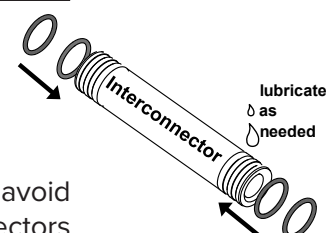

Figure TMM-200-1
3. If required, assemble interconnectors with supplied o-rings carefully to avoid any scratches. Use glycerine as a lubricant. Keep assembled interconnectors in a clean place until inserting into permeate tubes (**Figure TMM-200-1**).